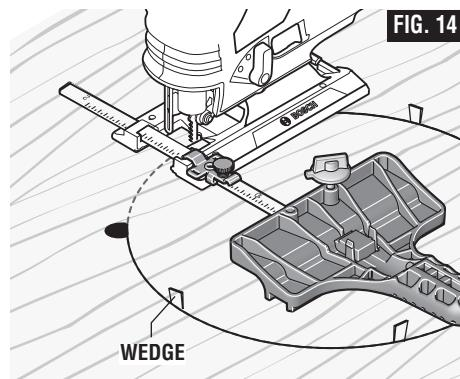

FIG. 14
- Place small wedges in the cut as shown in Fig. 14, to keep the inner circle from spreading when near the end of the cut.